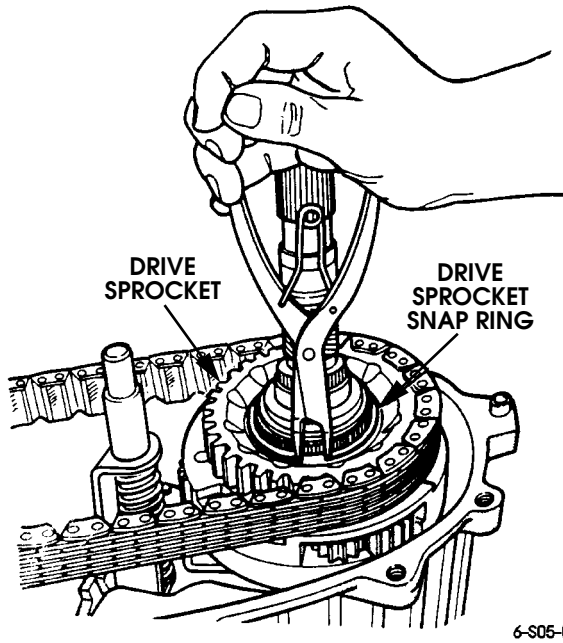

Figure 5-93: Drive Sprocket Snap Ring Removal/Installation
11. Remove drive sprocket snap ring (Figure 5-93).